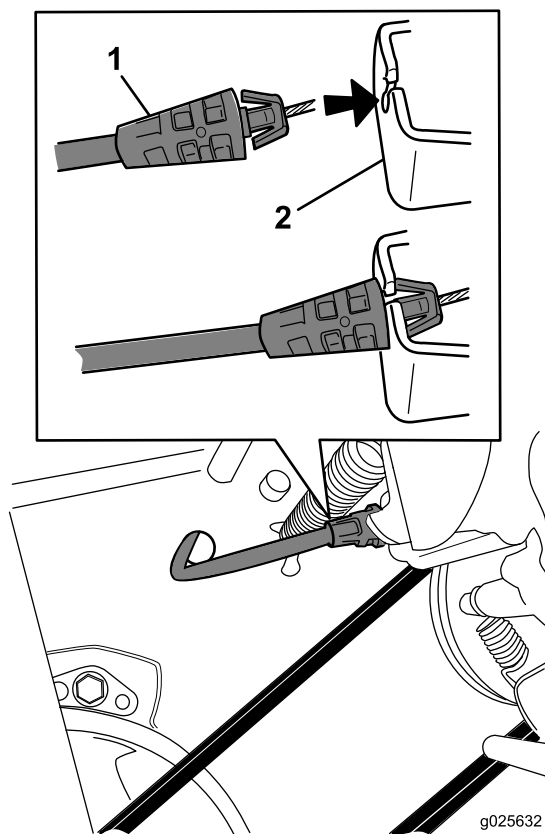

Figure 3
8. Insert the cable anchor into the hole in the bracket on the transmission gear case as shown in Figure 3.